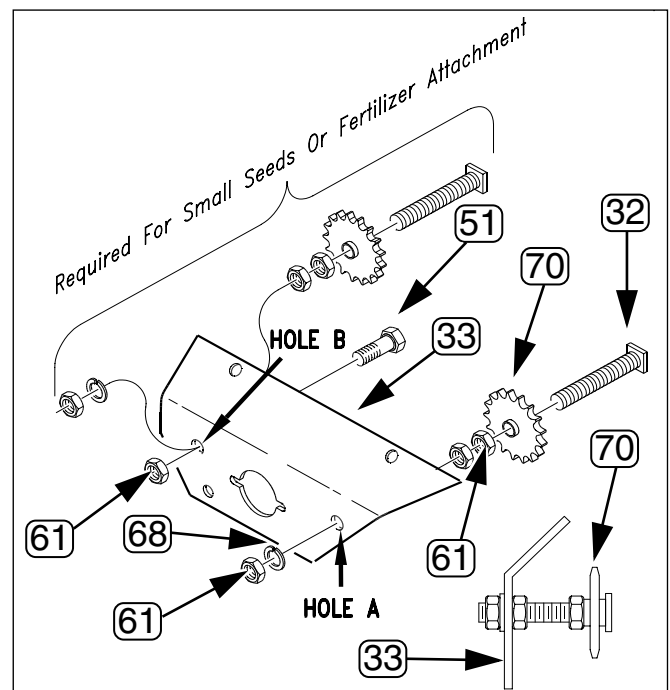

Figure 6
**Refer to Figure 6**
5. Slide the  $\frac{3}{4}$  inch hex shaft (37) into the seed box from the left side of the drill.